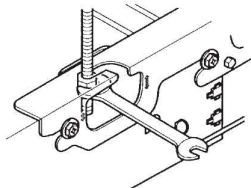

Fig.8
* Insert the spanner into the hanger bracket through the interspace. (Refer to Fig.8)